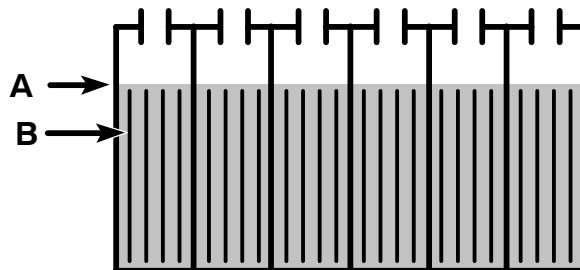

FIG. 23
The electrolyte level (A) should slightly cover the battery plates (B). Add distilled water as needed. **DO NOT OVERFILL**, the fluid may expand and overflow while charging. Replace cell caps before charging (Figure 23).